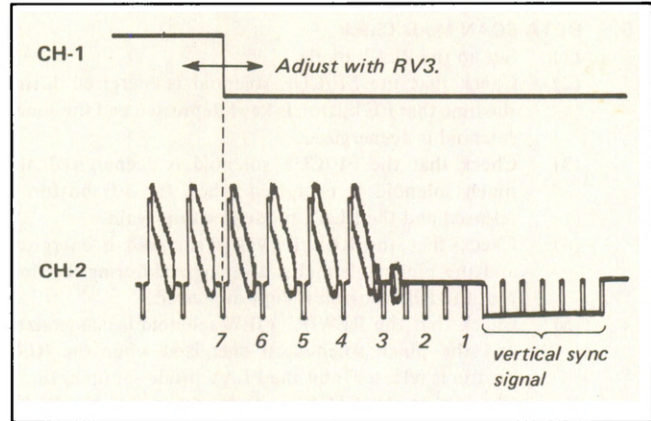

Fig. 4-10. Record-servo lock phase adjustment
- (1) Supply the video signal to the machine and record it.
- (2) Connect the oscilloscope CH-1 probe to TP001 on the SA-3 board and the CH-2 probe to TP11 on the YC-4 board.
- (3) Adjust RV3 on the SA-3 board so that the time between the falling portion of the CH-1 waveform and the vertical sync signal of the CH-2 video signal is $7H \pm 1H$ lines. (See Fig. 4-10.)